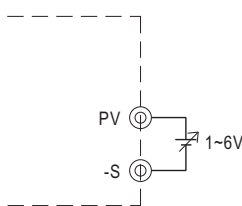

Fig. 3.1 Add on 1~6V external voltage
(1) Connecting an external DC source between PV and-S on CN1 or CN2 that is shown in Fig. 3.1.